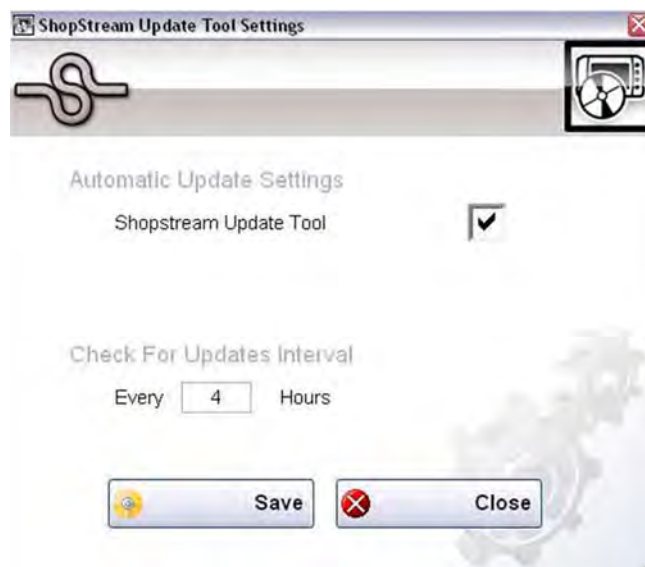
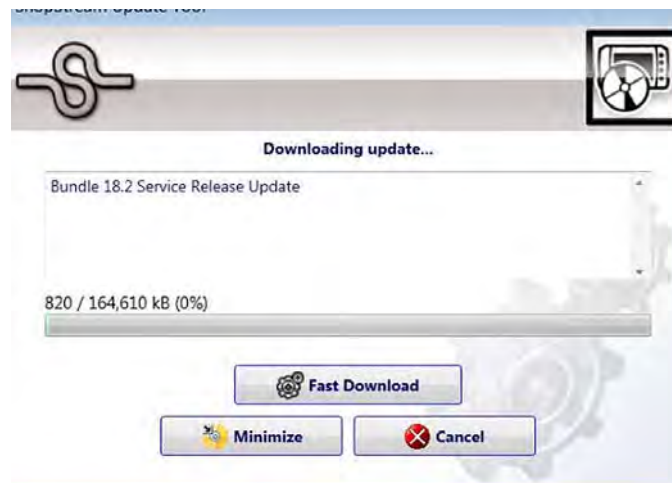

Figure 16-2
Figure 16-7 Typical - Update status window
- If updates are found, they will automatically begin to download (Figure 16-7).
To view the update status window (Figure 16-7), select **Show Progress** from the SST icon menu (Figure 16-2).
The percentage status bar may not always be displayed while downloading (Figure 16-7).